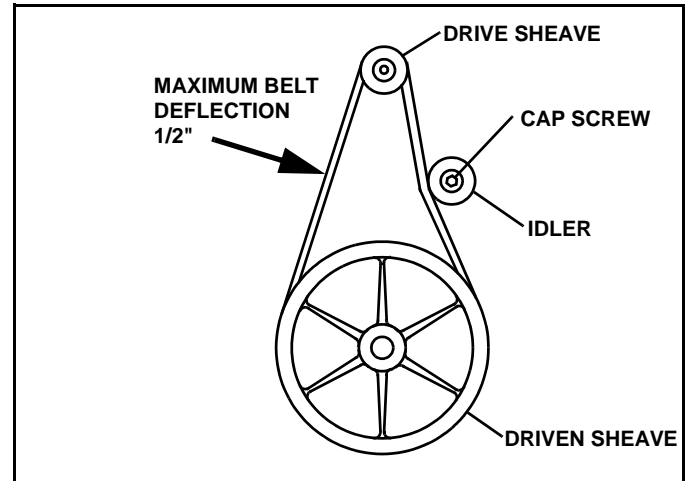

Figure 2-2
6. Loosen cap screw/nut retaining belt tensioner to crossbrace. (See Figure 2-2)
7. Adjust Idler until belt opposite idler has 1/2 inch deflection. (See Figure 2-2)
9. Replace Belt Cover and secure with four (4) Nylock nuts and plain washers. Tighten to 10 lbs-ft.